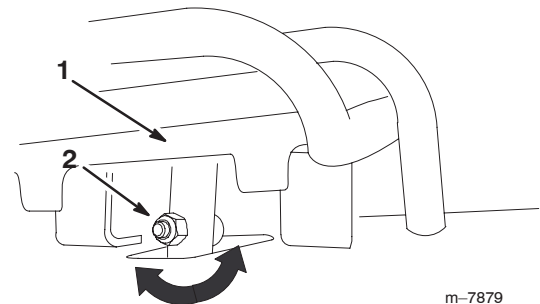

Figure 26
4. If the front of the traction control does not rest square and flush with the reference bar, loosen the flange nut and bolt in the stem of the traction control (Fig. 26).
5. Adjust the traction control so that it rest flush against the reference bar when it is pulled straight back (Fig. 26 and 27).